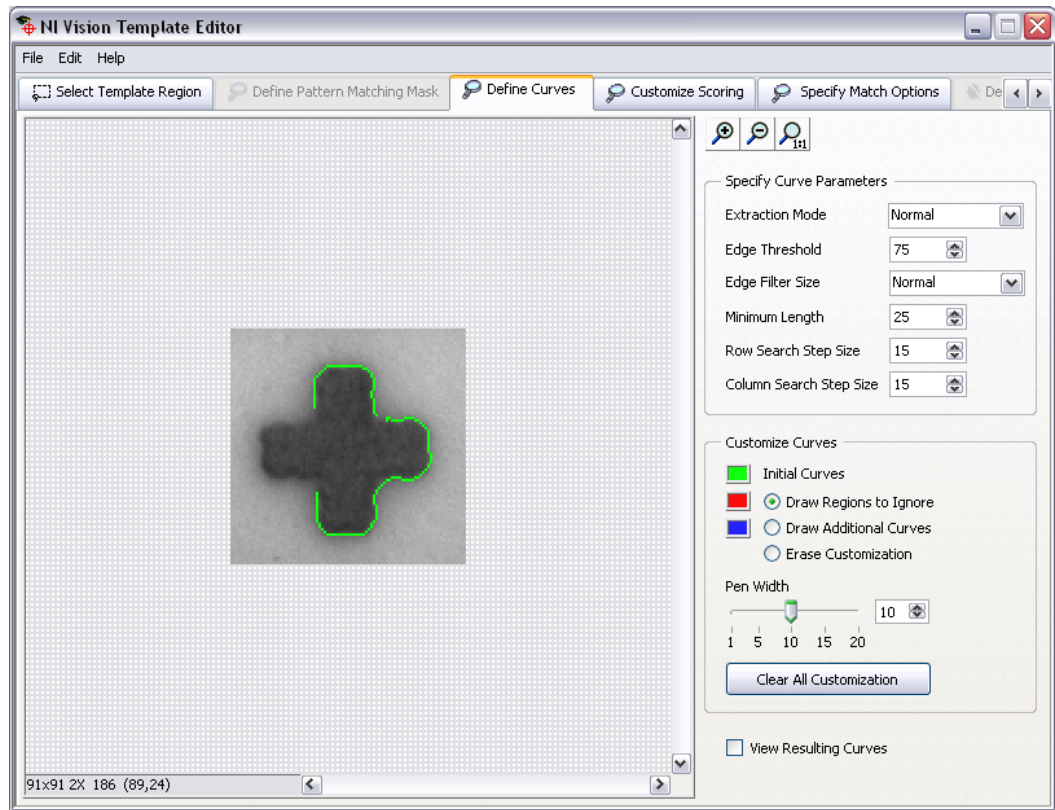
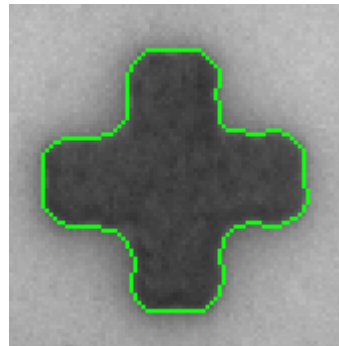

Figure 54. Define curves.
Figure 55. Correct shape detection.
4. Go to Define Curves tab. Configure the Specify Curve Parameters [Figure 54] so that the desired geometry is found in the template region [Figure 55].